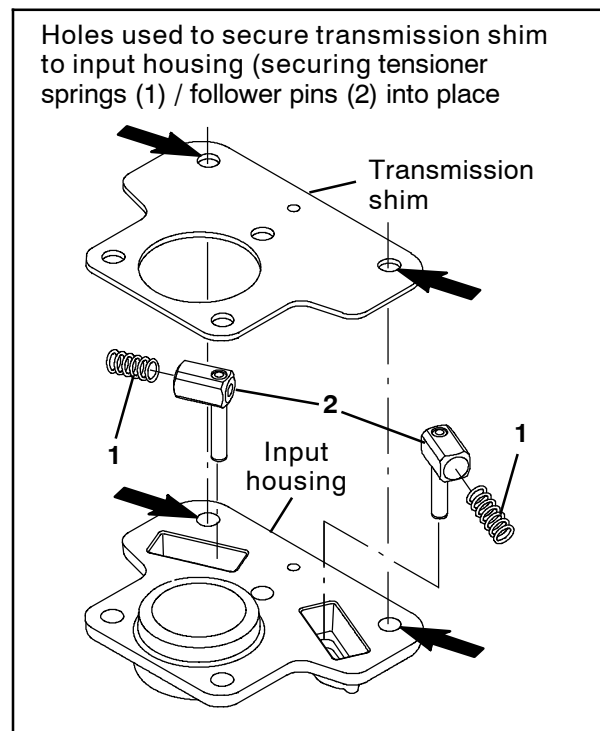

FIG. 4
7. **T17 machines with optional power steering and all M17 machines:** Loosen hardware and disconnect the steering shaft from the input shaft. (Fig. 4)
5. Insert a tensioner spring (1) into each follower pin (2). (Fig. 4)
6. Insert the tensioner springs (1) / follower pins (2) into the input housing, place the transmission shim onto the input housing to secure the tensioner springs (1) / follower pins (2) into the input housing, and secure all items together with a cable tie. (Fig. 4)